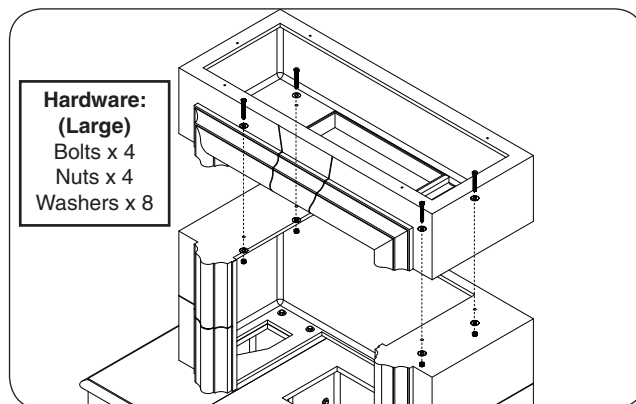

Fig. 17-4 Assemble middle body
1. Place the middle body piece on top of the base body piece. Carefully align the pilot holes, and repeat the hardware installation process (large hardware kits). See Fig. 17-4.